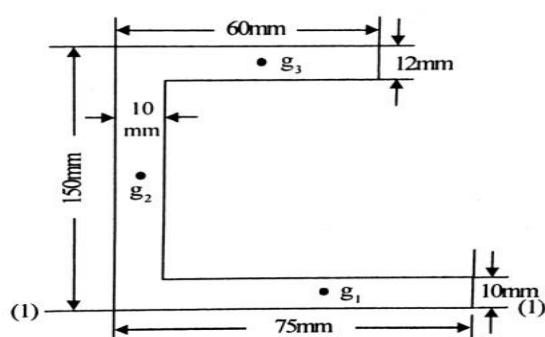

Fig 8
b) Find the radius of gyration of the area shown in fig 8, about the horizontal and vertical centroidal axes. **12**